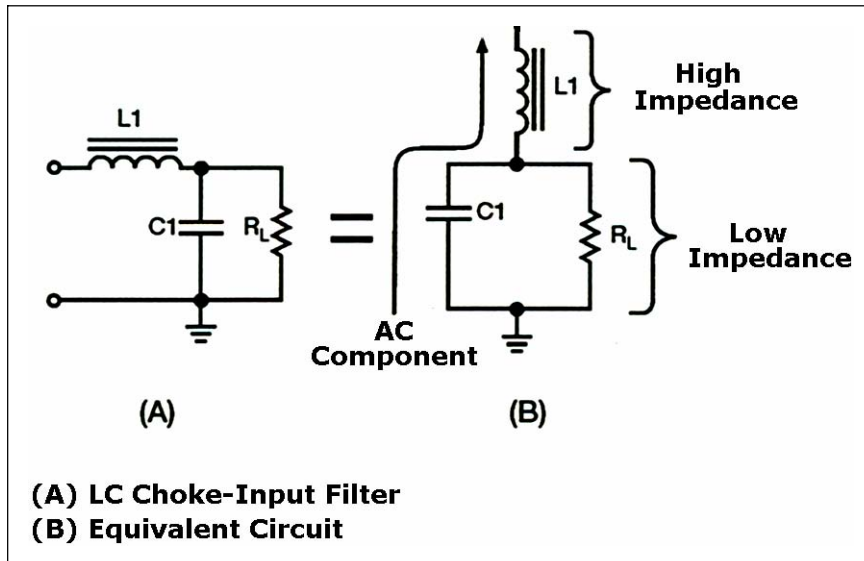

Figure 4-21. LC Choke-input Filter (Voltage Divider)
4-53. The inductor (also referred to as the filter choke or coil) serves to maintain the current flow to the filter output (R_L) at a nearly constant level during the charge and discharge periods of the filter capacitor. The inductor (L1) and the capacitor (C1) form a voltage divider for the AC component (ripple) of the applied input voltage (see Figure 4-21, views (A) and (B)). As far as the ripple component is concerned, the inductor offers high impedance (Z) and the capacitor offers low impedance (view B). As a result, the ripple component (E_r) appearing across the load resistance is greatly attenuated (reduced). The inductance of the filter choke opposes changes in the value of the current flowing through it. Therefore, the average value of the voltage produced across the capacitor contains a much smaller value of ripple component (E_r) than the value of ripple produced across the choke.